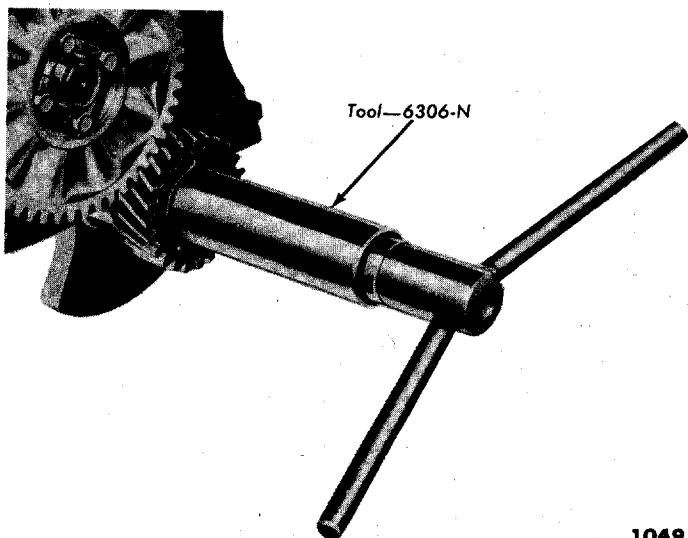

Fig. 47—Installing Crankshaft Gear
(3) **INSTALLATION.** Press the gear on the crankshaft with the tool as shown in fig. 47. Be sure the keyway and key are aligned.